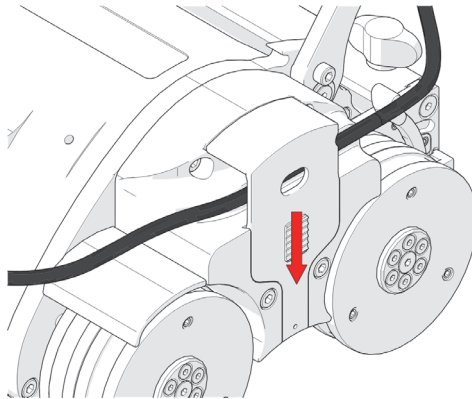

Figure 2-18 Place cables and hoses then close retainer
2. Route cables, hoses, or tubes through the retainer, and then press the cable retainer down (see Figure 2-18 on page 58).